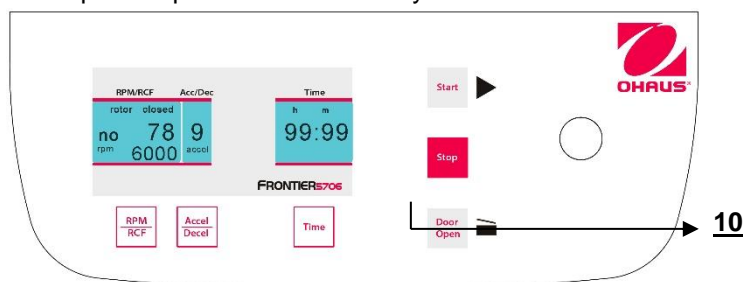

Figure. 23
The run can be interrupted at any time by pressing the "**Stop**" key (10) (See figure 23). After pressing the key the centrifuge decelerates with the respective pre-selected intensity until it reaches standstill.